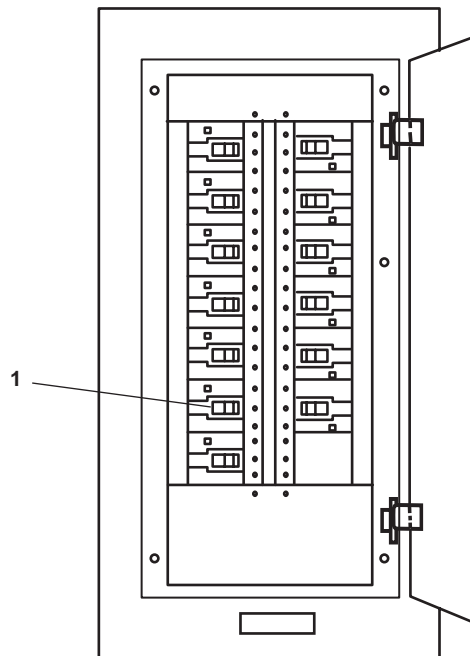

Figure 6. 440V Power Panel No. 1
2. At 440V power panel No. 1, set to OFF the FUEL OIL TRANSFER PUMP No. 2. circuit breaker (figure 6, item 1).